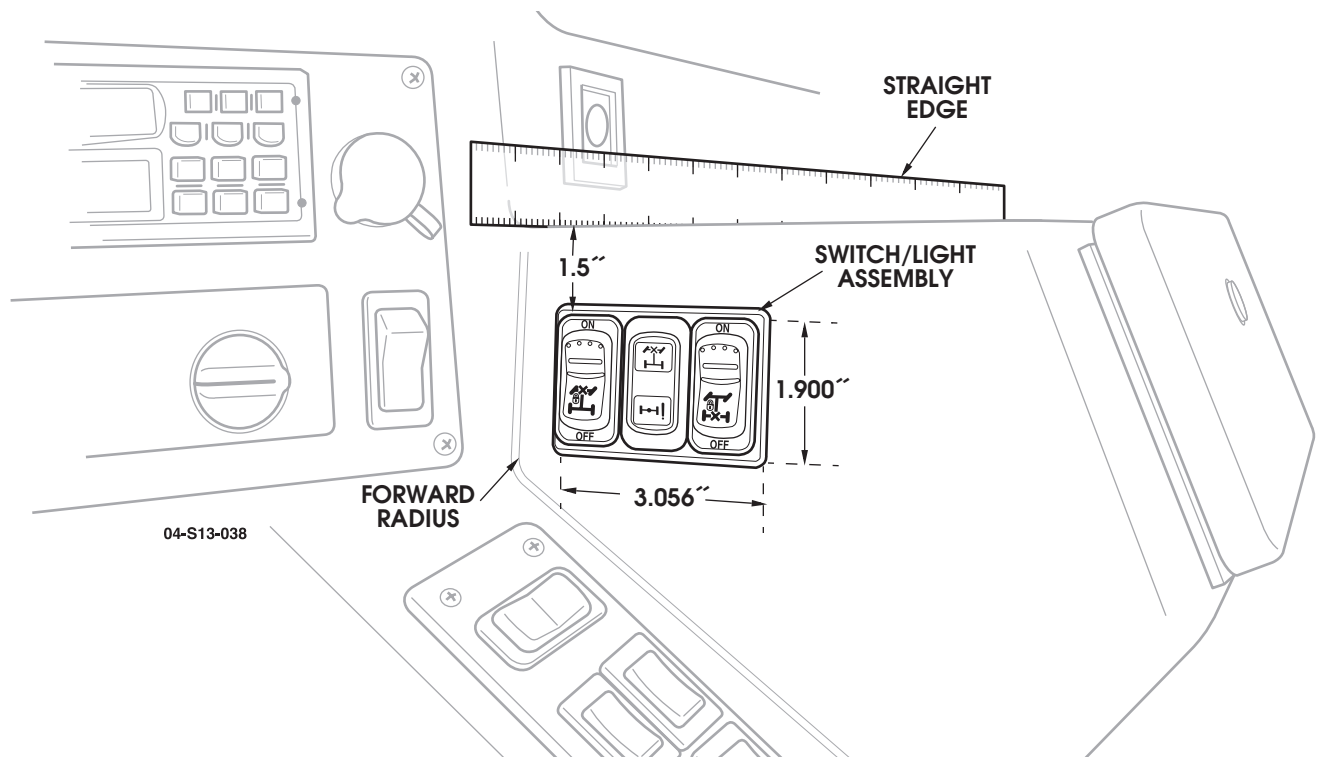

Figure 6: Switch and light assembly mounting.
17. The switch and light assembly will be installed in the left side of the center console (See Figure 6). Remove the drink holder tray and lay a straight edge across the surface forward of the ash trays. On the left side of the console, measure down from the straight edge, close to the forward radius, 1 1/2 inches and make a mark. Move the straight edge rearward approximately 3 inches and do the same. A line between these two points will be the top edge of the hole for the switch/light assembly. Continue measuring and marking to produce a rectangle that is 3.056 inches wide and 1.900 inches tall. That is roughly 3 1/16 inch by 1 7/8 inch. Drill the corners with a 1/16 inch drill and use a utility knife to cut the upholstery out of the area before cutting the substrate.